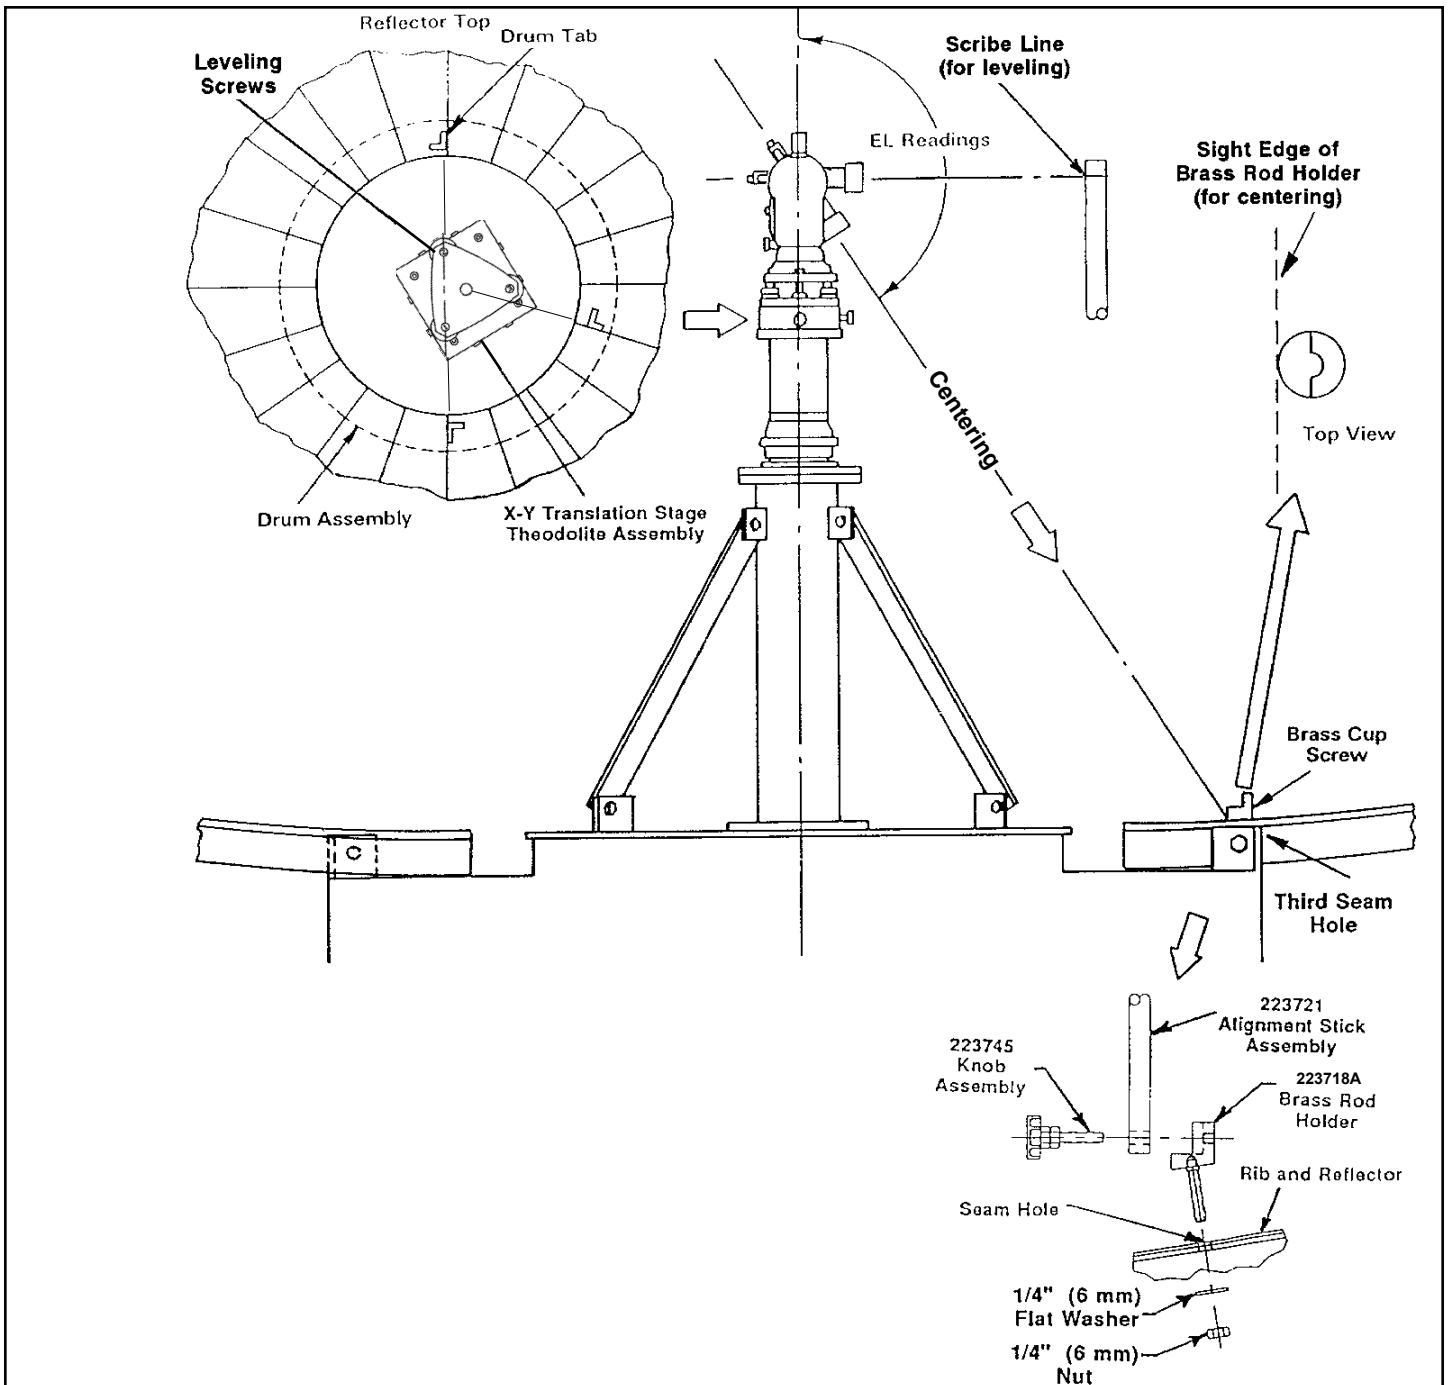

Figure 38
Refer to Figure 38. Assemble 3 brass rod holders as shown. The brass rod holders used for calibration of the theodolite to the reflector and subsequent alignment of the reflector, must be installed in the third seam holes at the panel seams shown.
**Step 4** Refer to Figures 38 and 39. With the height of the theodolite and its support kit set as indicated in Figure 24, the theodolite should sight near the scribe line of the alignment stick when theodolite elevation is set to  $90^{\circ} 00' 00''$ . If not, set the theodolite elevation angle to  $90^{\circ}$  and move the theodolite up or down until it sights on the scribe line using the rotary precision lift. Be careful not to turn entire torque tube while turning precision lift.
- Step 1** Refer to Figures 38 and 39. Centering of the theodolite is performed using the X-Y translation stage. This device has 2 sets of micrometer adjustments and 2 sets of long locking adjustment screws which are opposed at 90°.
- Step 3** Refer to Figure 38. Centering is performed by focusing the theodolite on the intersection of the brass rod holder and the reflector skin.